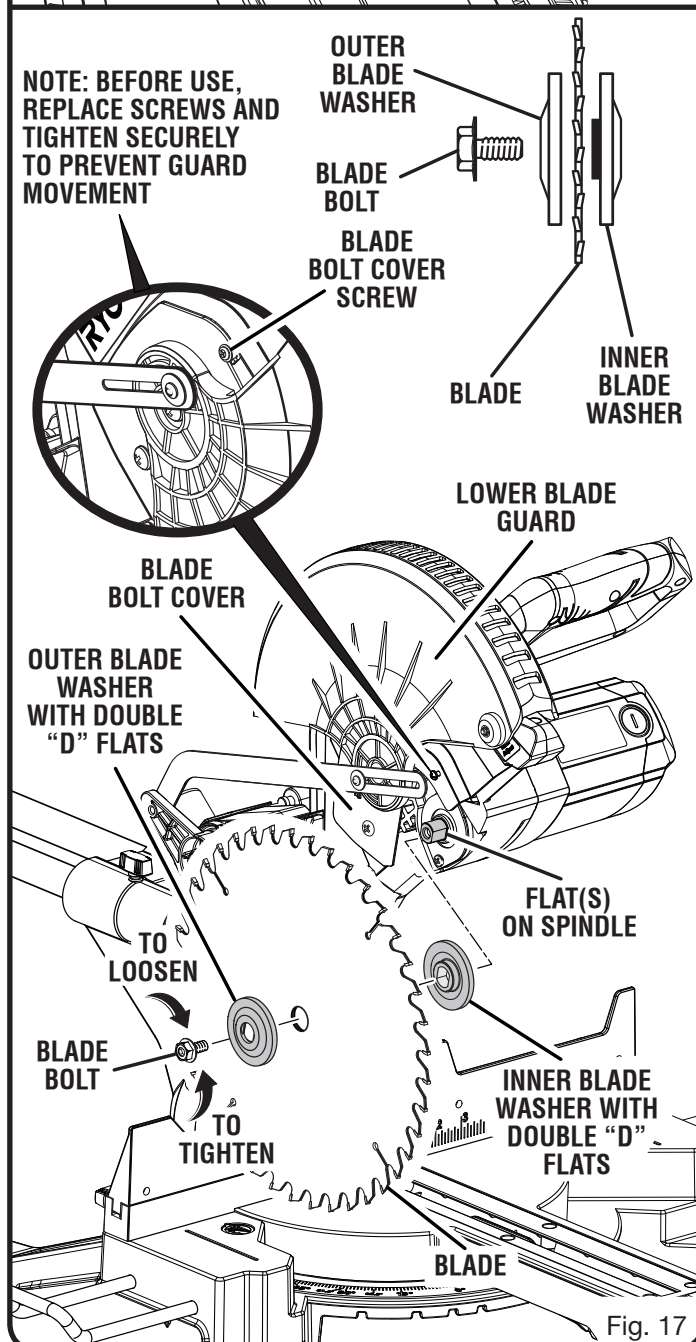

Fig. 17
- Fit saw blade inside lower blade guard and onto shoulder of inner washer. The blade teeth point downward at the front of saw as shown in figure 17.